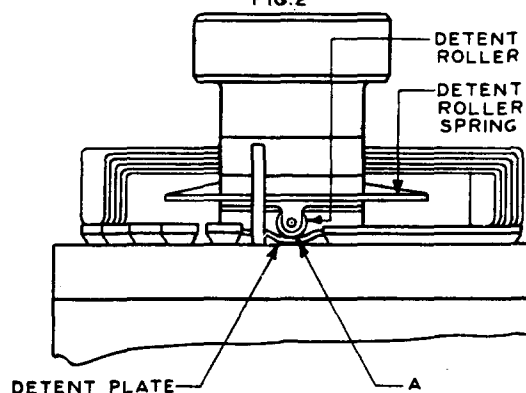

FIG. 3
2.04 Pressure of Detent Roller: Fig. 3(A) - The pressure of the detent roller against the detent plate, when the roller is seated in a depression in the plate, shall be: